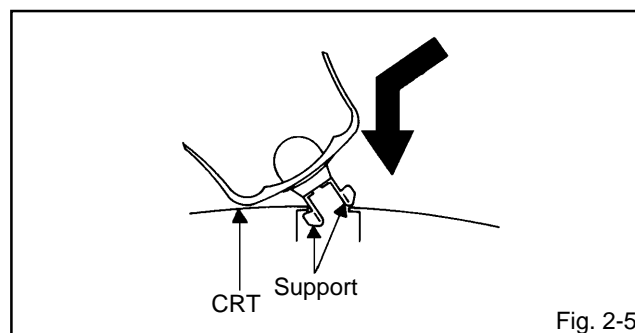

Fig. 2-5
4. Insert one end of the Anode Support into the anode button, then the other as shown in Fig. 2-5.